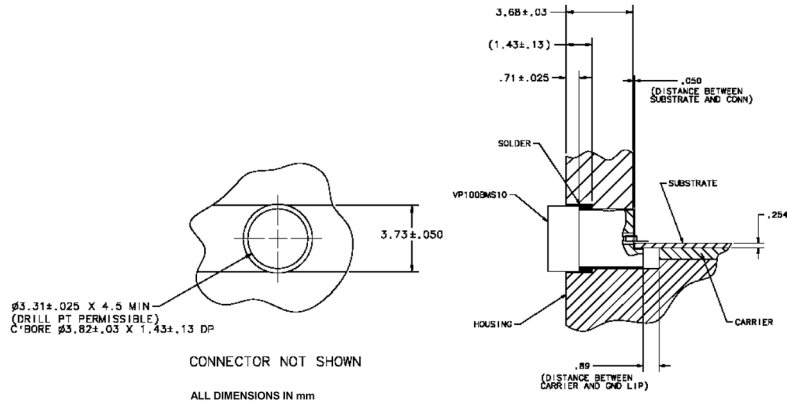

Figure 2. VP100BMS10 Mounting Hole Dimensions and Assembly for a Thick Wall Housing
Machining dimensions for the shroud mounting hole are shown in Figures 2 and 3.
- For a thick-wall housing place three to four solder washers on the shroud and place the shroud into the housing as shown in Figure 2.